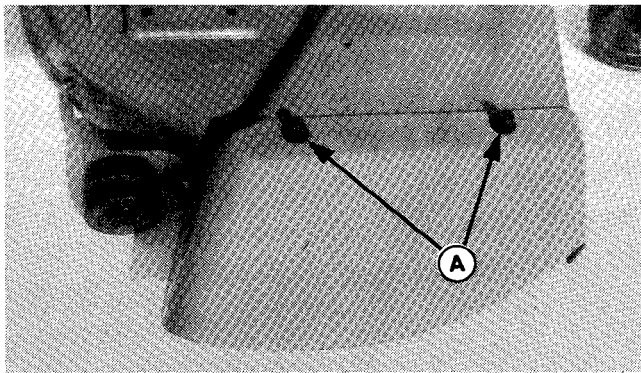

Figure 1.
5. Remove the mower deflector by removing two carriage bolts, lockwashers and nuts (A, figure 1). Save this hardware for use when blower is removed for side discharge.